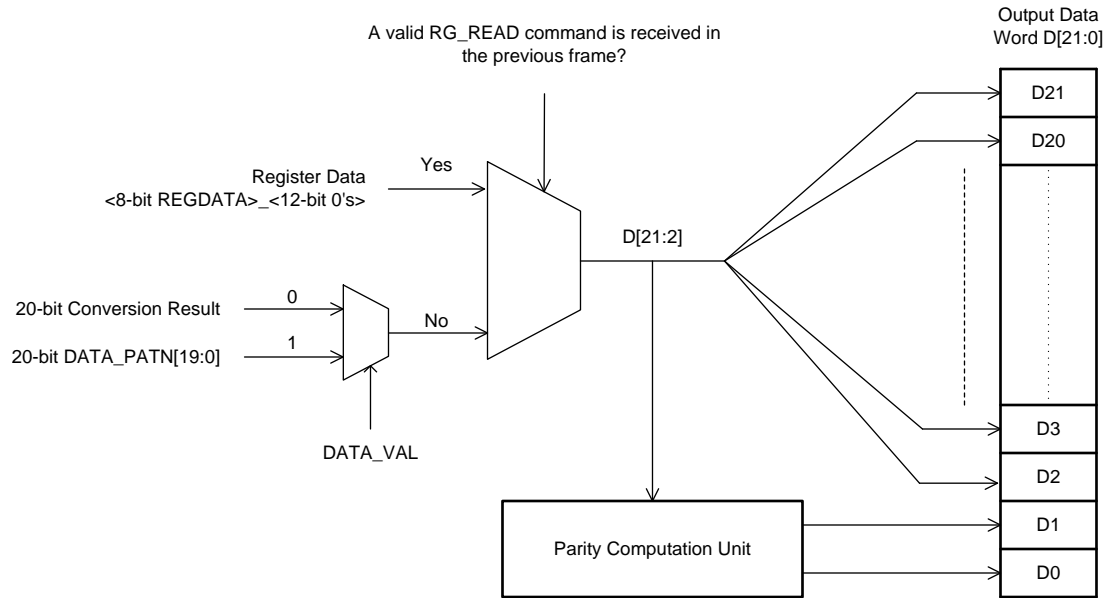
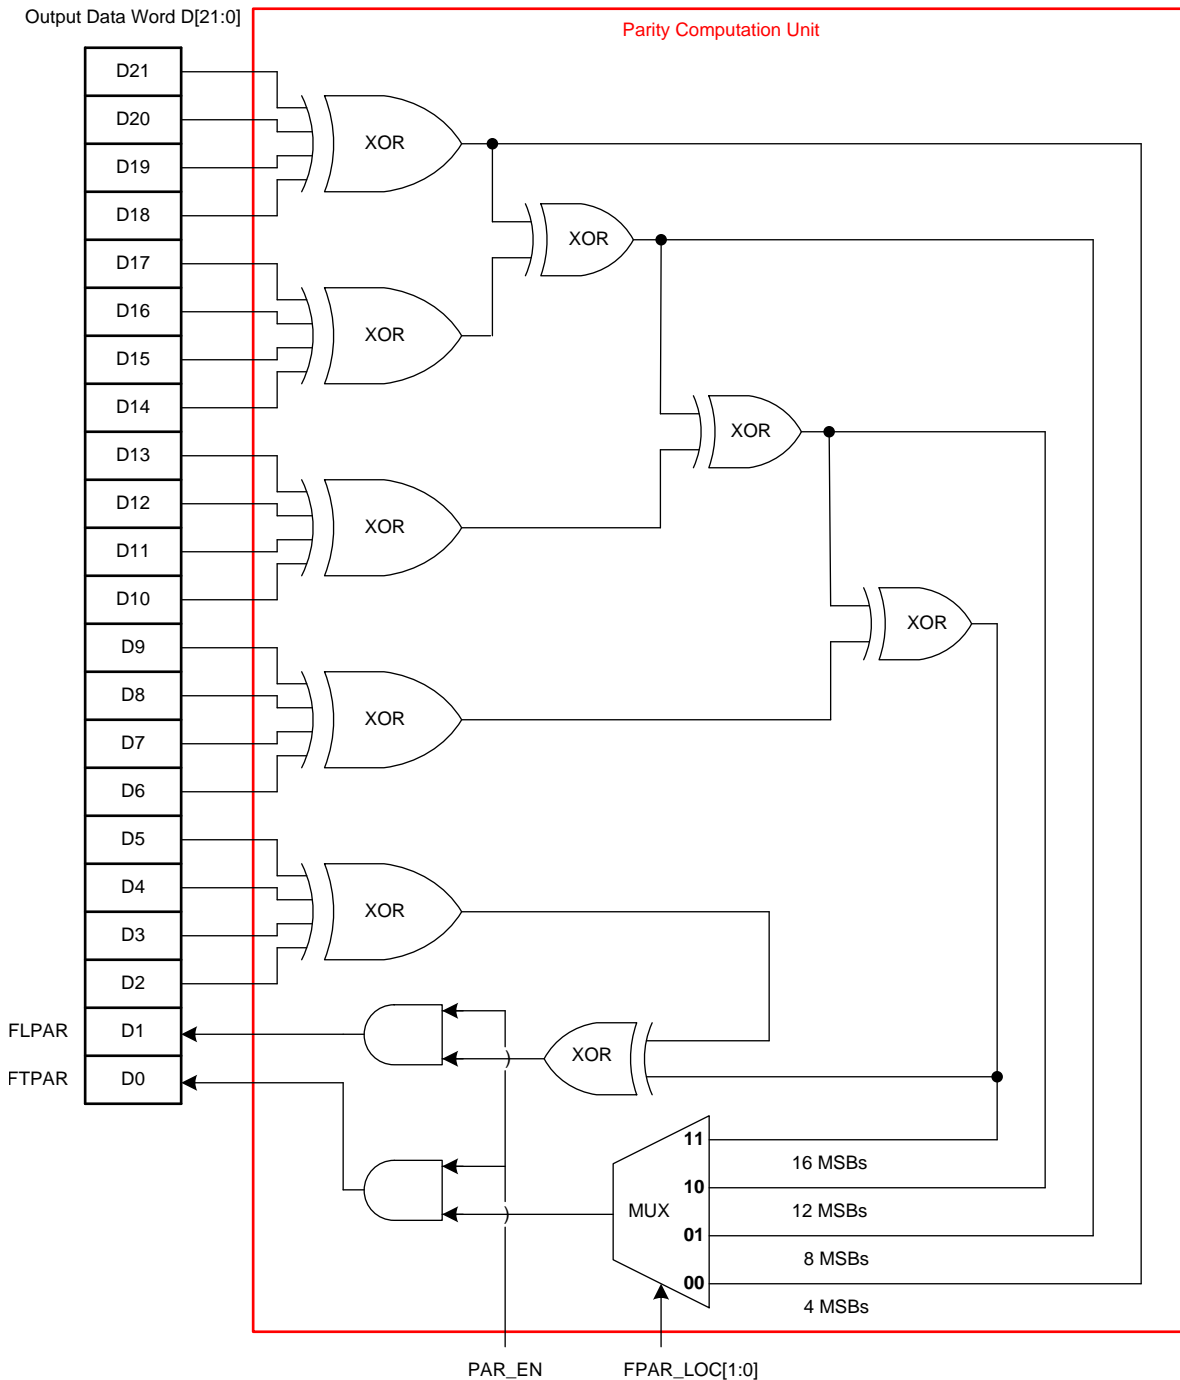
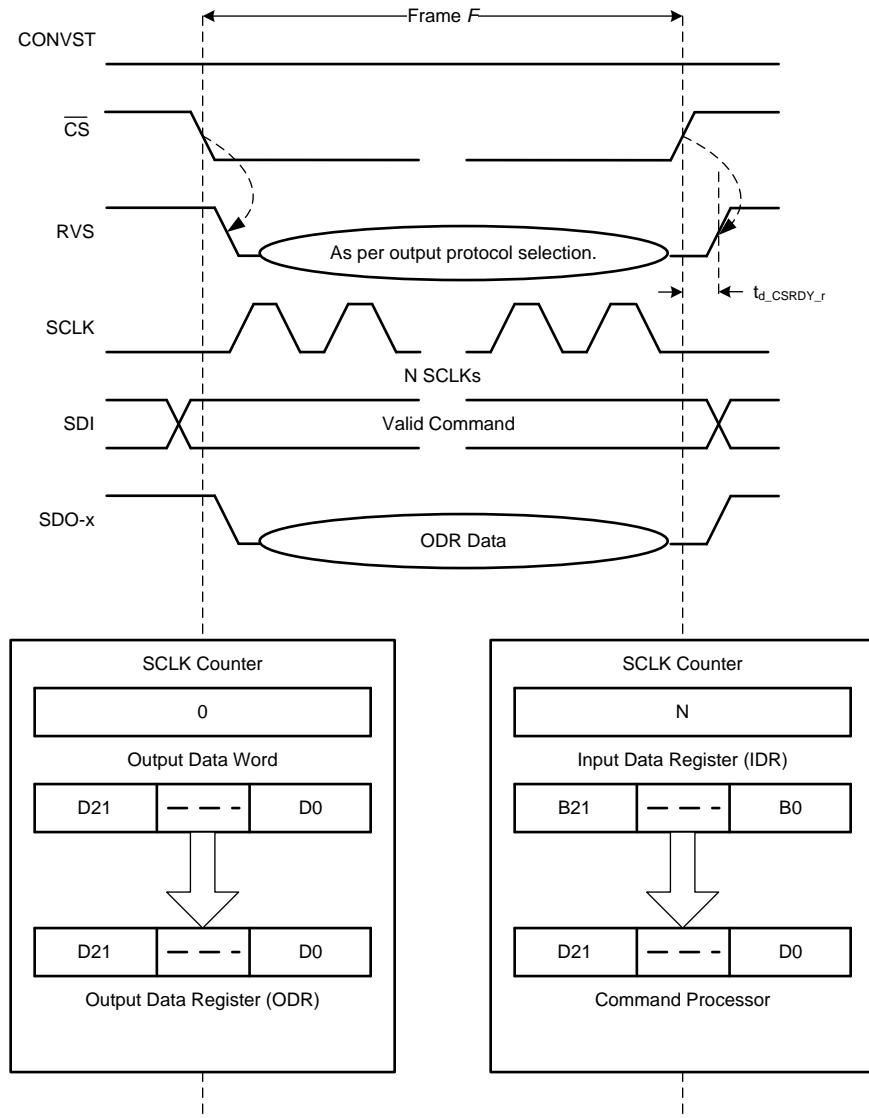

Figure 43. Output Data Word (D[21:0])
Figure 44. Parity Bits Computation
Figure 45. Data Transfer Frame
Figure 43 shows the output data word. Figure 44 shows further details of the parity computation unit illustrated in Figure 43.
A data transfer frame between the device and the host controller is bounded between a  $\overline{CS}$  falling edge and the subsequent  $\overline{CS}$  rising edge. The host controller can initiate a data transfer frame (as shown in Figure 45) at any time irrespective of the status of the CONVST signal; however, the data read during such a data transfer frame is a function of relative timing between the CONVST and  $\overline{CS}$  signals.
- The device takes control of the data bus. As shown in Figure 45, the 22-bit contents of the output data word (see Figure 43) are loaded in to the 22-bit output data register (ODR; see Figure 39).
- As illustrated in Figure 45, the 22-bit contents of the IDR are transferred to the command processor (see Figure 39) for decoding and further action.
In a short command frame, the write operation to the device is invalidated; however, the output data bits transferred during the short command frame are still valid output data. Therefore, the host controller can use such shorter data transfer frames to read only the required number of MSB bits from the 22-bit output data word. As shown in Figure 43, an *optimal read frame* for the ADS890xB devices must read only the 20 MSB bits of the output data word. The length of an optimal read frame depends on the output protocol selection; see the Protocols for Reading From the Device section for more details.